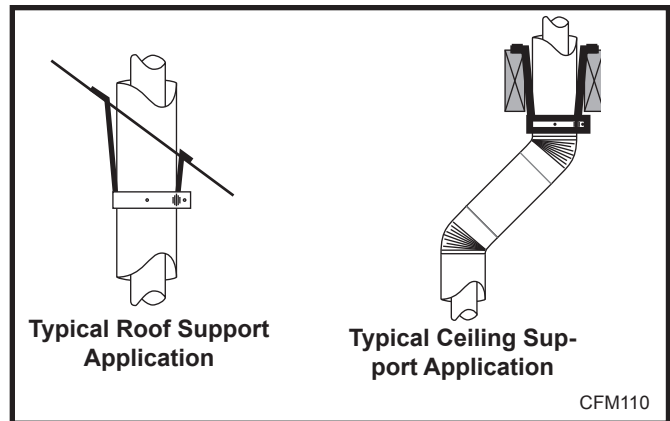
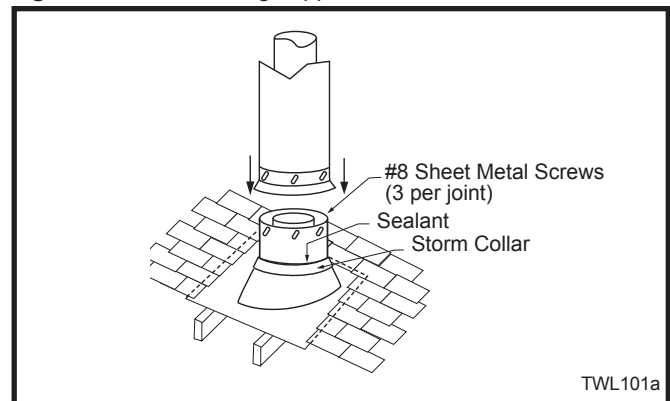

Fig. 33 Roof and ceiling supports.
Fig. 34 Roof flashing.
- 7DVCS must be used to support offsets. (Fig. 33) This application will require that you first determine the roof pitch and use the appropriate starter kit. (Refer to Venting Components List)
7. Install roof support (Fig. 33) and roof flashing making sure upper flange of flashing is below the shingles. (Fig. 34)
8. Install appropriate pipe sections until the venting is above the flashing. (Fig. 34)
The enlarged ends of the vent section always face downward. (Fig. 34)